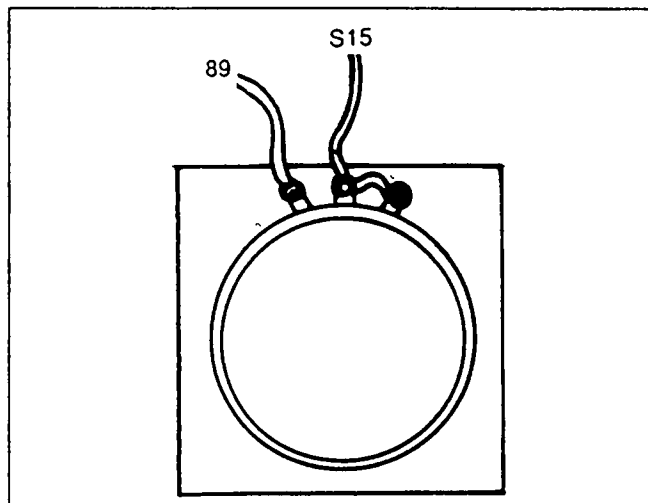

Figure 10. Voltage Adjust Potentiometer
1. Gain access to the voltage adjust potentiometer terminal ends, inside the control console. See Figure 10.